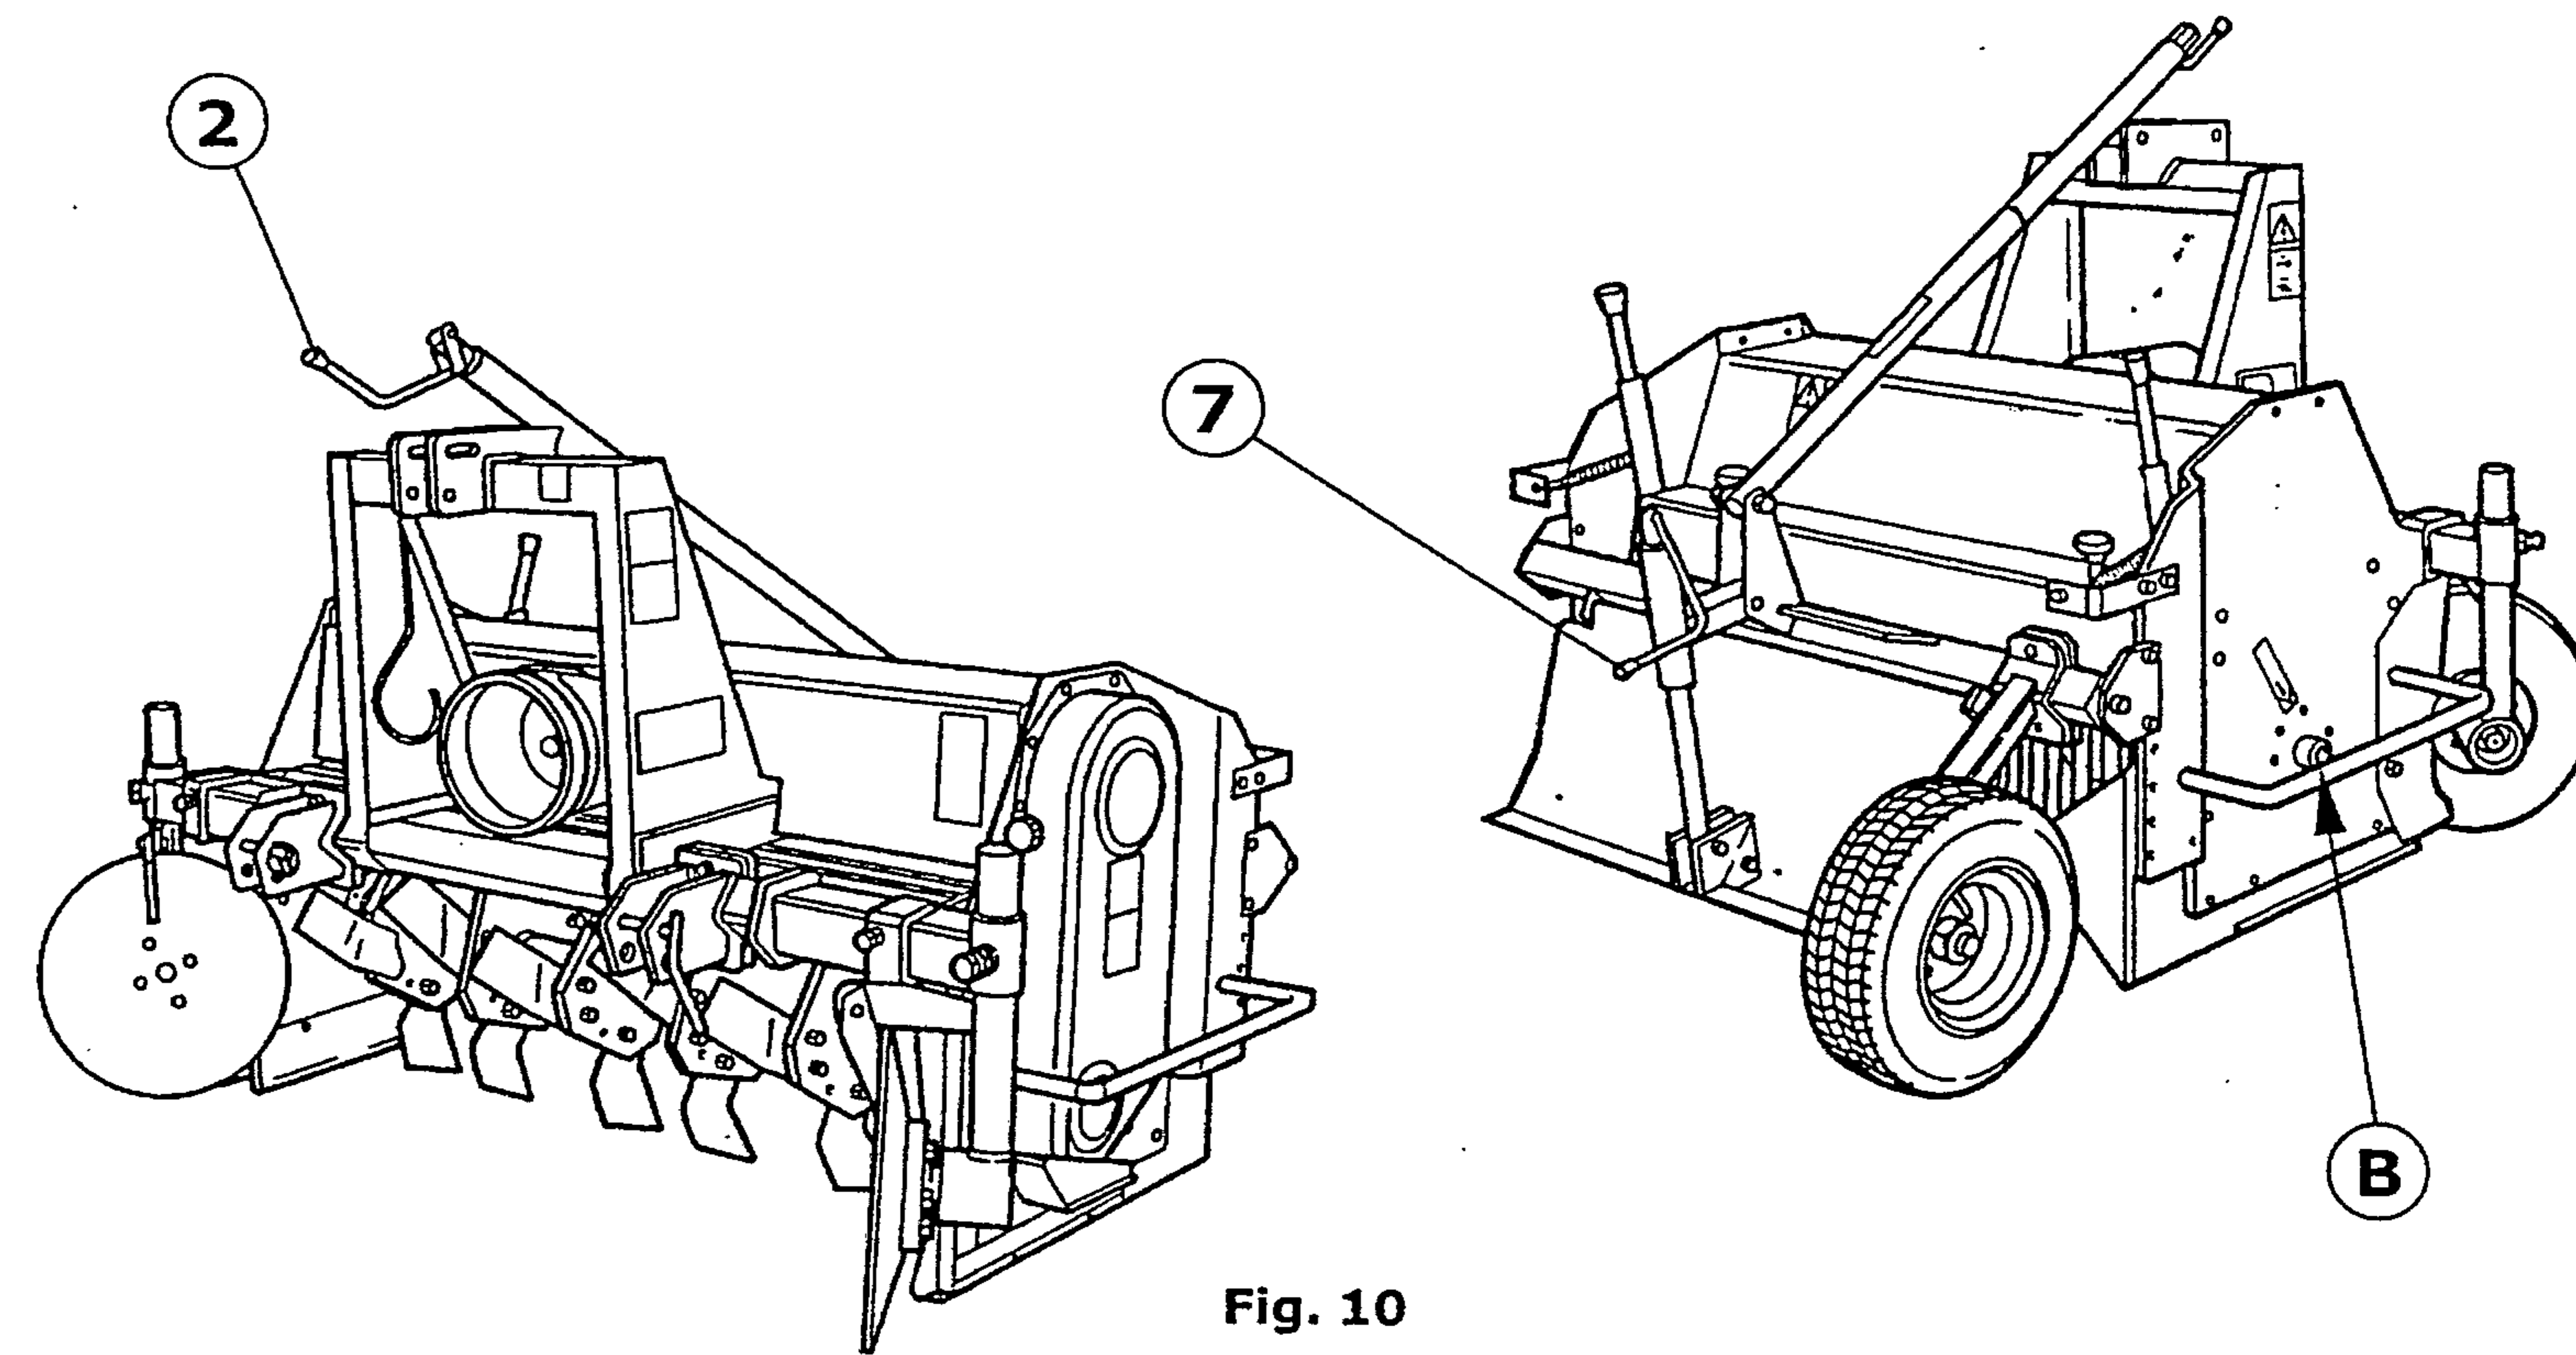
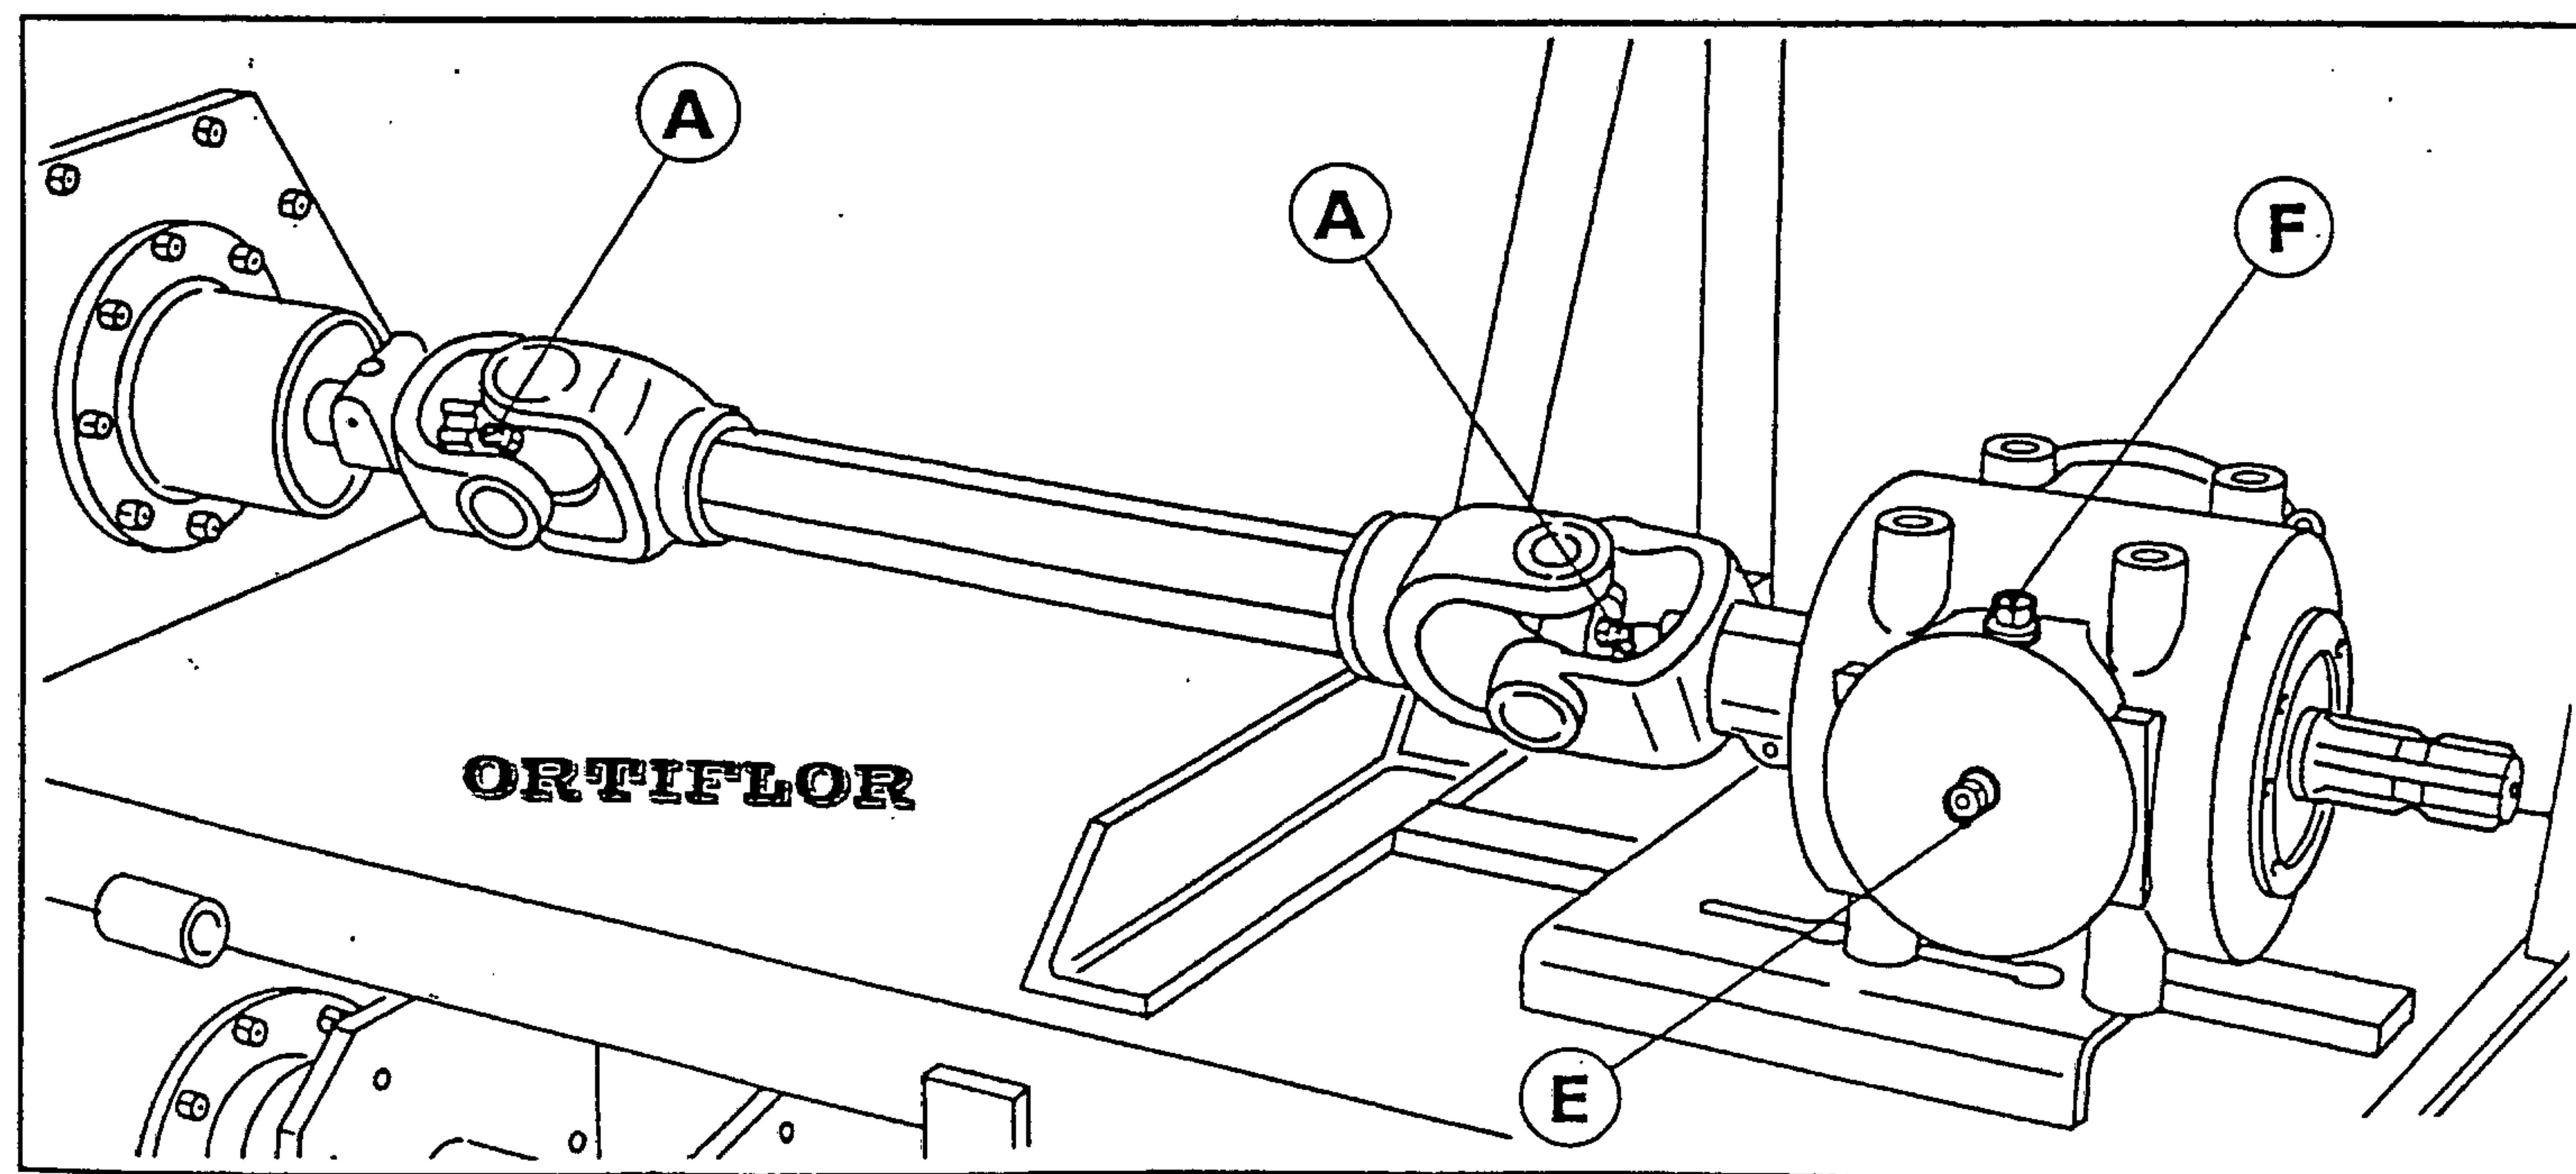

Fig. 10
Fig. 9
Every 20 hours: use the special grease nipples to lubricate the cardan shaft (A - Fig. 9) and the rotor (B - Fig. 10).
Periodically: use the special grease nipples to lubricate the two cranks (2 - Fig. 10) and (7).
Check the oil level in the gearbox through the level plug (E - Fig. 9). Top up, if necessary, through the plug (F).